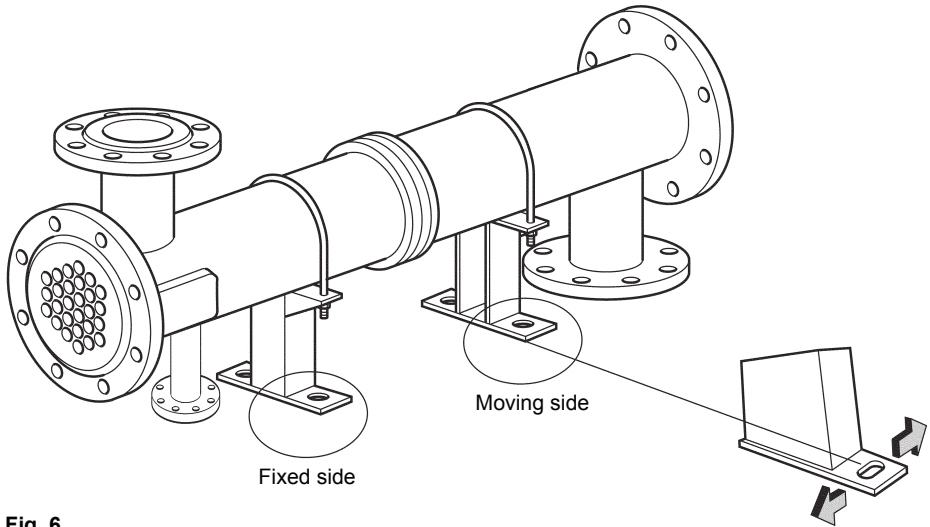

Fig. 6
4.7 Loosen the saddle bolts at one end of unit to allow free expansion (Fig. 6)